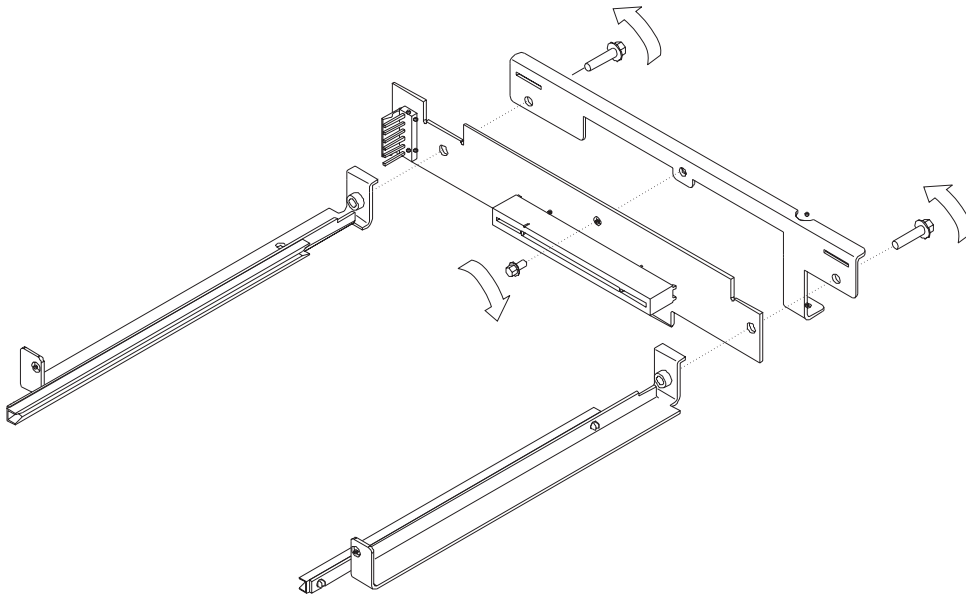

Figure 4-37. Assembling the Riser Card
- 1** Attach the riser card Assembly with the supplied screw to the riser brace as shown in Figure 4-37.